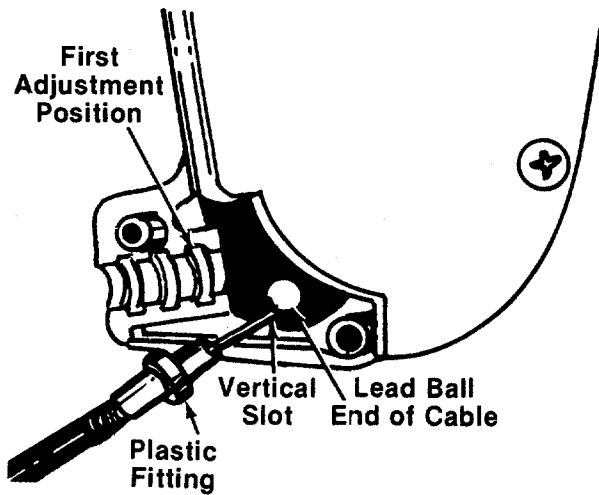

FIGURE 9.
- a. Place the lead ball end of the cable into the fitting provided in the end of the clutch control lever. Slip the braided wire into the vertical slot as shown in figure 9.
- c. Place the plastic fitting on the control cable into the first adjustment position in the clutch control housing. See figure 9.